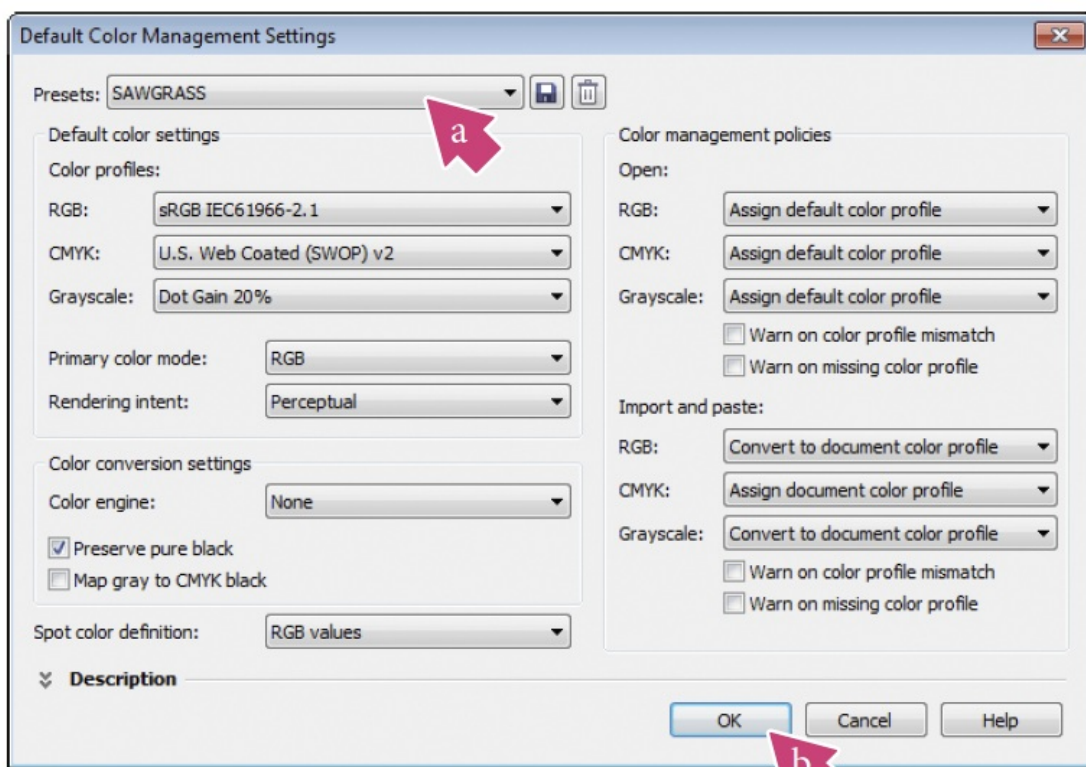

FIGURE 4
4. In the Default Color Management Settings window, select **Sawgrass** in the settings dropdown and confirm that your settings match those shown below, and click **OK**. See Figure 4.